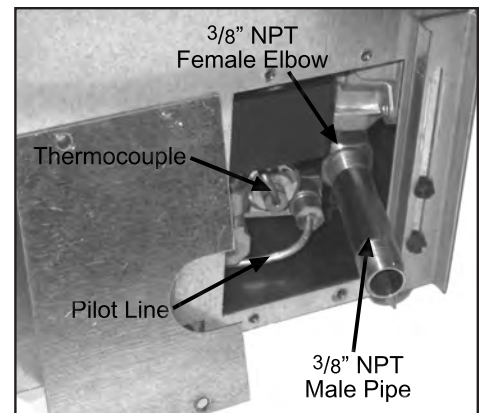

Figure 50: 3/8" NPT female elbow.
- A 3/8" NPT male pipe will have to be turned into the 3/8" NPT female elbow at the lower right side rear of this fireplace (see Figure 50). Consult the local authorities for local codes or use the CAN/CGA B149 (1 or 2) installation code in Canada. In the US, gas installations follow either local codes or the current edition of the National Fuel Gas Code ANSI Z223.1.